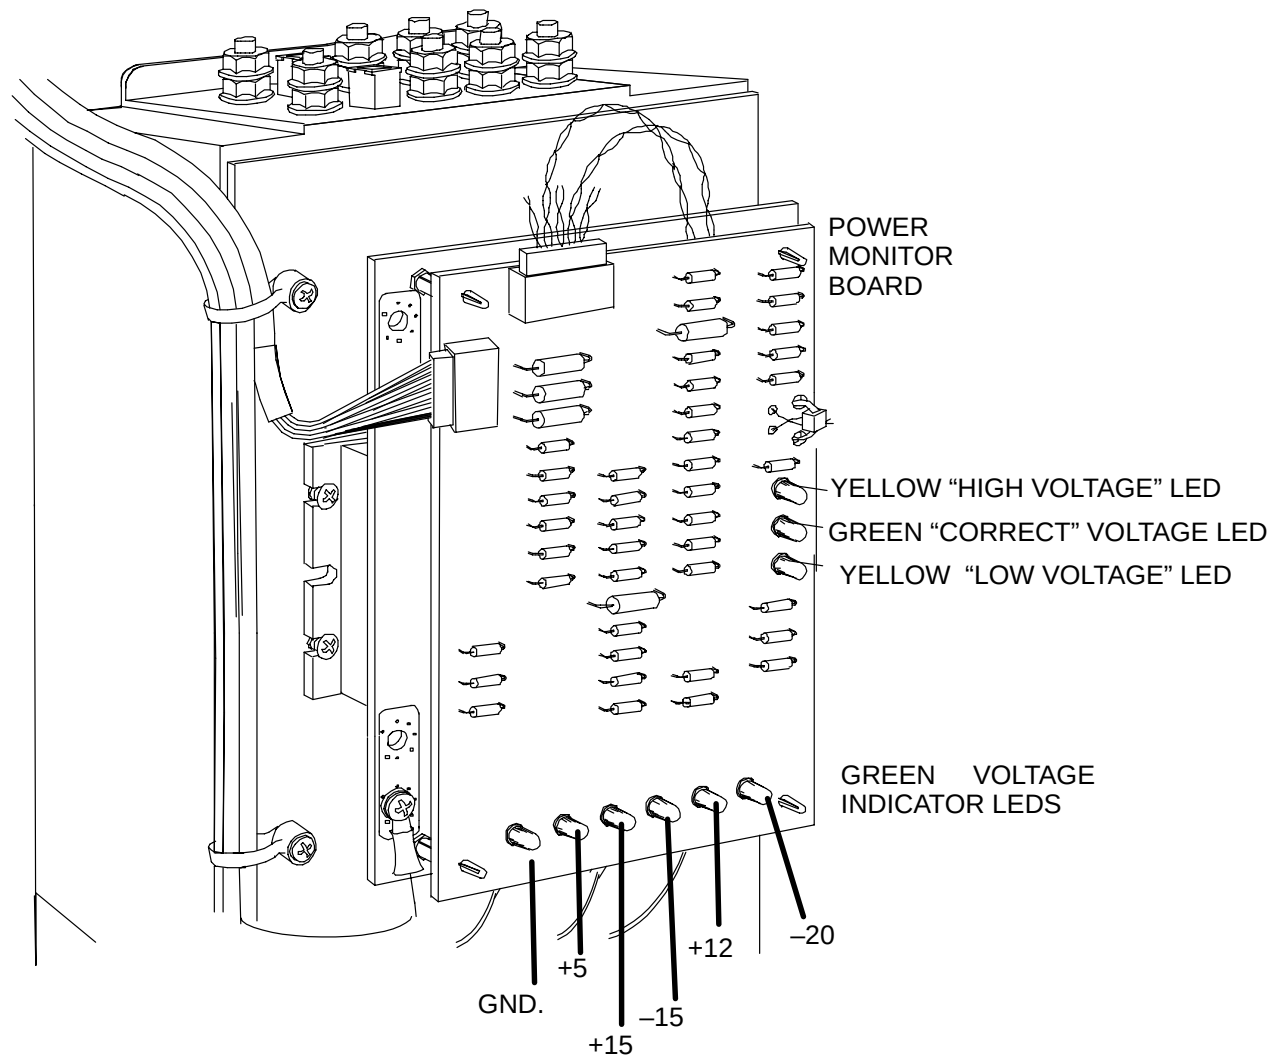

FIGURE 103 POWER SUPPLY TEST POINTS
3. Set the DMM to a 20 volt or greater DC range. Connect the leads while observing proper polarity to the proper test points (+5, +15, –15, +20 and –20vdc with respect to ground). Refer to Figure 103.